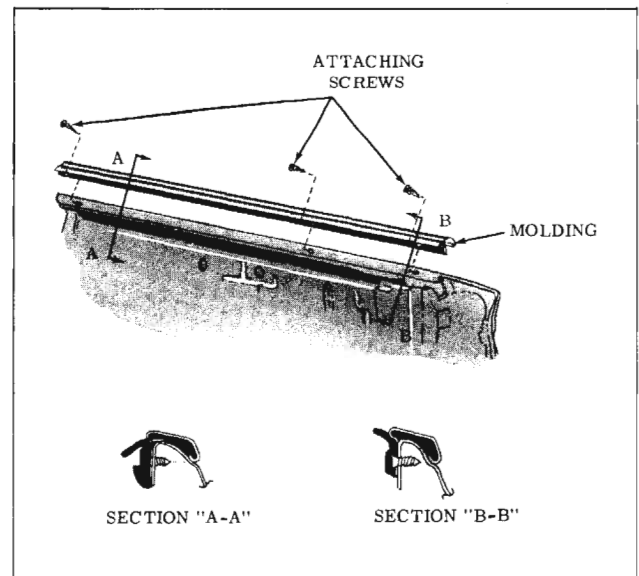
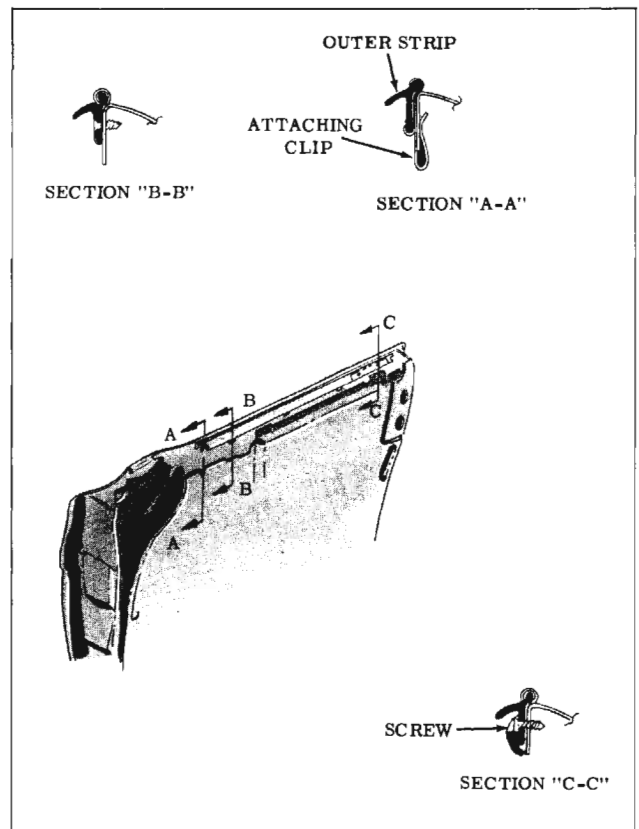

Figure 16-12 Run Channel Outer Strip with a Belt Reveal Molding
Figure 16-13 Run Channel Outer Strip without a Belt Reveal Molding
4. Remove all outer strip assembly attaching screws (three screws on styles equipped with a belt reveal molding and two screws on all other styles). See Figure 16-12 for styles with a belt reveal molding and Figure 16-13 for all other styles.